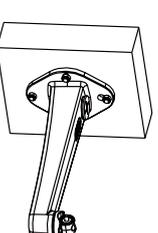

Figure 2-2: Fix the Bracket onto the Wall
2. Fix the bracket onto the wall with M6 expansion screws, as shown in the figure 2-2.